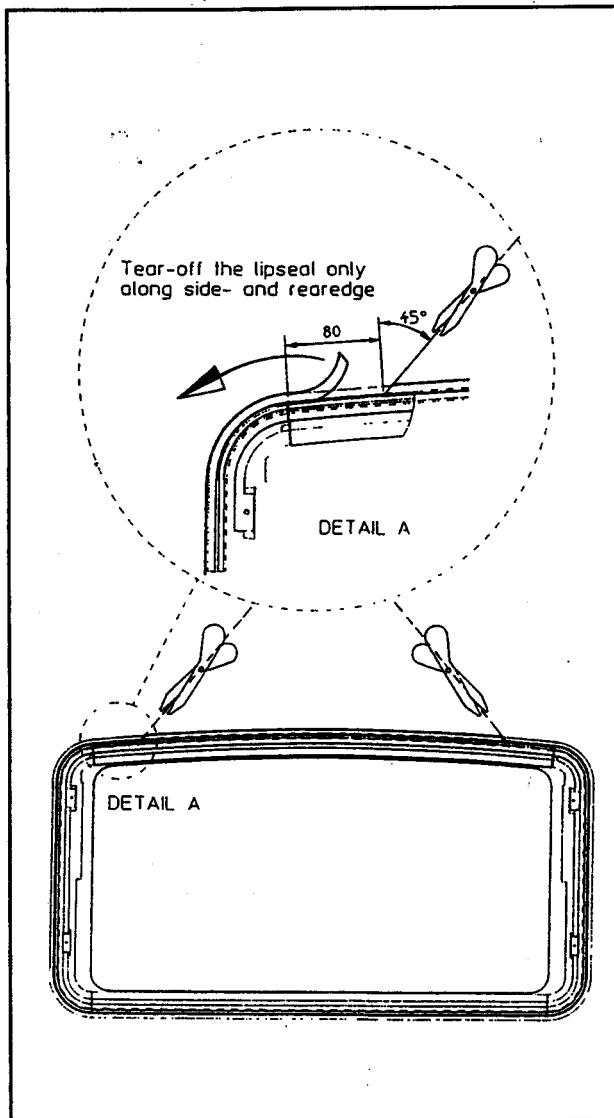

Fig. 14 - Cutting and Fitting Rubber Seal.
9. Cut in the extra lip at the bottom of the rubber seal. Use scissors (fig. 14).